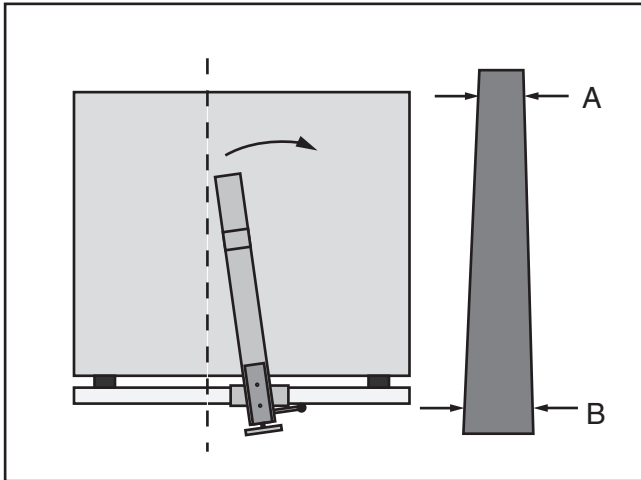

Figure 35. Adjusting the fence to the right.
- If end B is wider than end A, then the tip of the fence needs to be adjusted to the right to make the fence parallel to the blade (**Figure 35**).